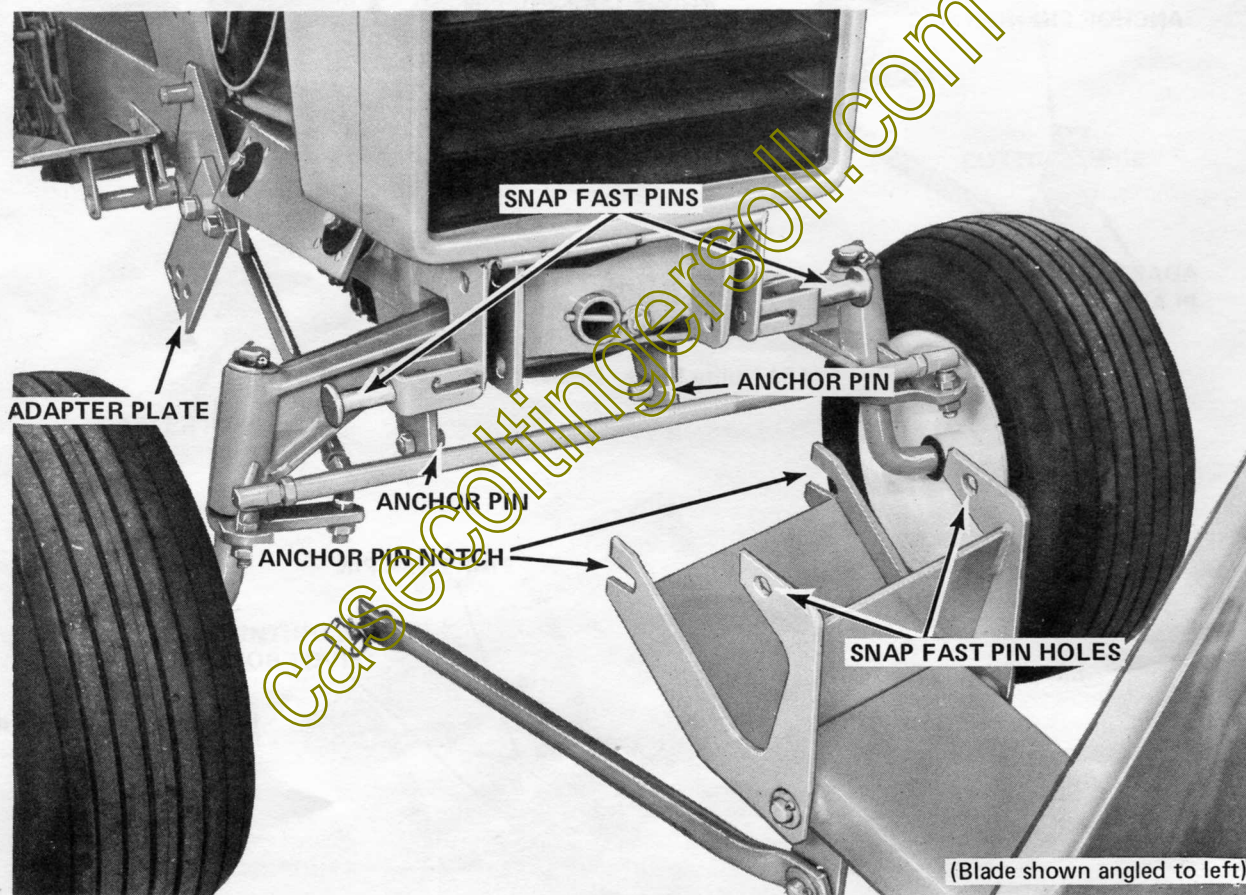

Figure 6
2. Lower the tractor lift lever. Attach the adapter plate to the tractor lift lever with the two bolts, nuts and lockwashers provided. Be sure the adapter plate slants to the rear of the tractor (See Figure 6).
4. Engage the notches of the mounting bracket with the anchor pins. (See Figure 6).